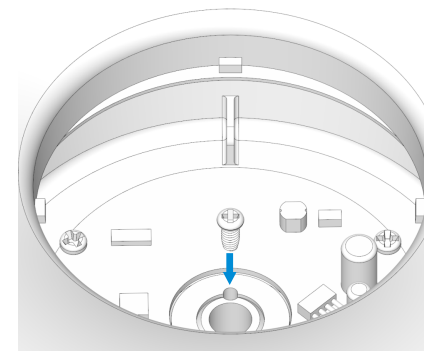

Fig. 2.2
2.2 Secure the light kit screw from the hardware pack into the designated screw hole, making sure it is firmly tightened to safely connect the motor and lampshade, as demonstrated in Fig. 2.2.